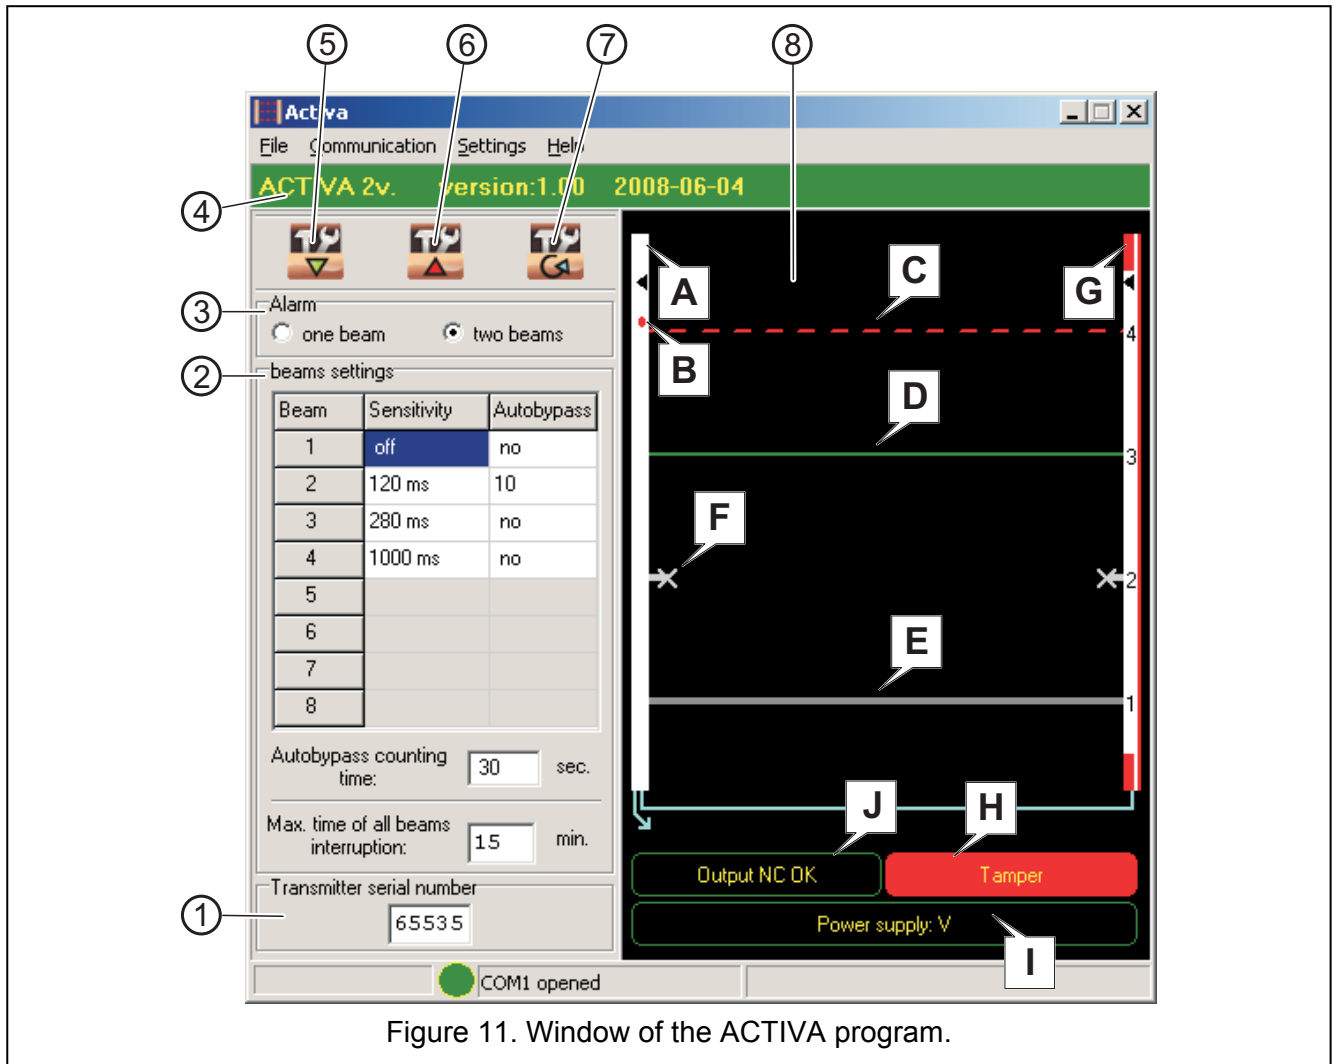

Figure 11. Window of the ACTIVA program.
Explanations for Figure 11:
G Transmitter. Red color (as in Figure 11) means that the transmitter tamper input has been violated,
- Tamper (as in Figure 11).
- Output NC OK (as in Figure 11),